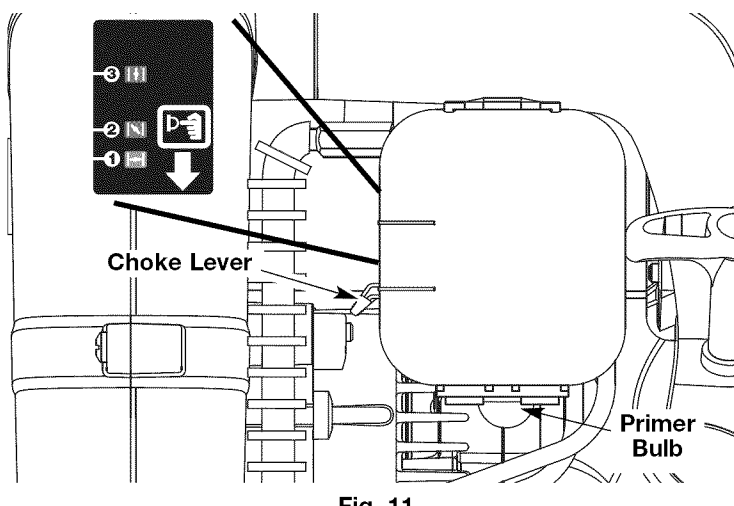

Fig. 11
- Fully press and release the primer bulb 10 times, slowly. Some amount of fuel should be visible in the primer bulb and fuel lines (Fig. 11). If you can't see fuel in the bulb, press and release the bulb as many times as it takes until you can see fuel in it.
- Place the red choke lever in **Position 1** (Fig. 11).
- Place the red choke lever in **Position 2** (Fig. 11).
- Once the engine is warmed up, place the red choke lever in **Position 3** (Fig. 11).
IF... the engine hesitates, return the red choke lever to Position 2 (Fig. 11) and continue warm-up.
IF... the engine fails to start after a few attempts, place the red choke lever in **Position 3** (Fig. 11) and press down the cruise control. Pull the starter rope briskly 3 to 8 times. The engine should start. If not, repeat.
IF WARM... If the engine is already warm, start the unit with the red choke lever in **Position 2** (Fig. 11). After the unit starts, move the red choke lever to **Position 3** (Fig. 11) and raise the cruise control.